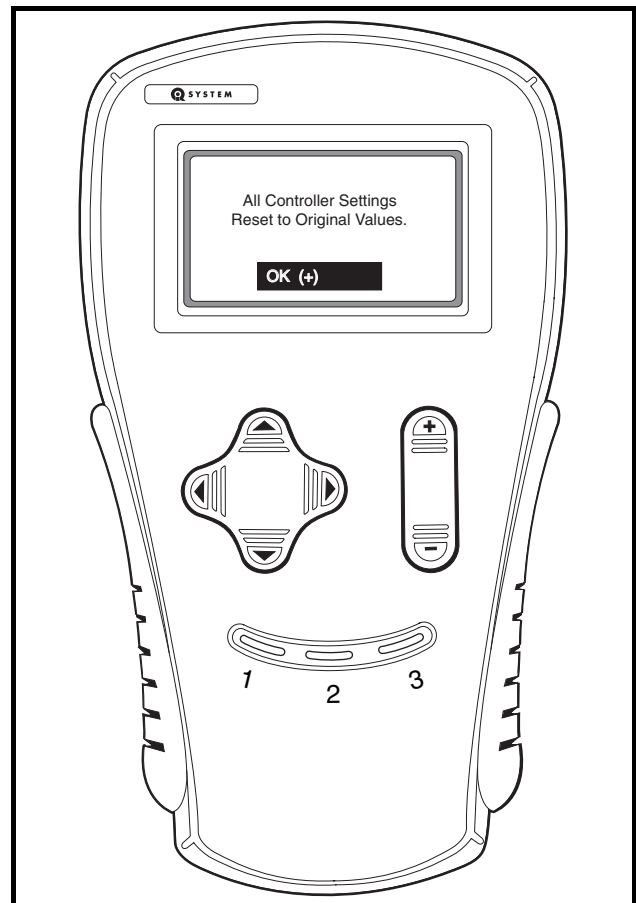

Figure 12-8 Confirmation Message
6. When the handset is finished resetting the speed controller settings, a confirmation message is displayed (**Figure 12-8**).